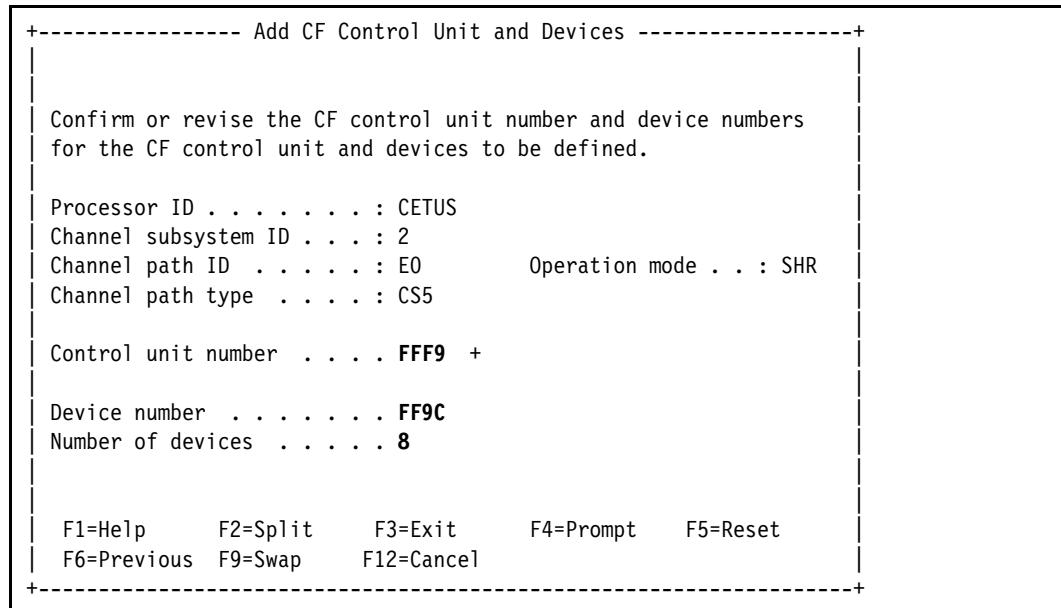

Figure 14-11 Processors: Add CF Control Unit and Devices, CS5
10. HCD provides suggested Control Unit numbers and Device addresses for the first CS5 CHPID (Figure 14-11). Observe that the Control unit number is the same and that eight devices were allocated. Press **Enter**.